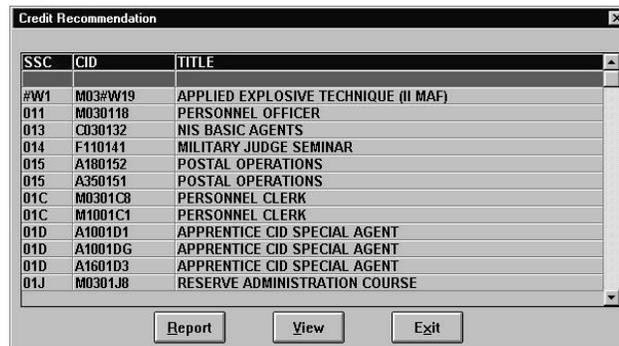

Figure 6-17. Credit Recommendation
4. Choose CID Table. Then choose Credit Recommendation. The Credit Recommendation selection list box (Figure 6-17) opens.